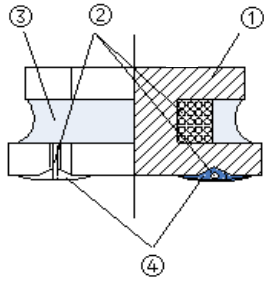

Fig.4-3
- Structure: See Fig.4-3 and Table 4-2.